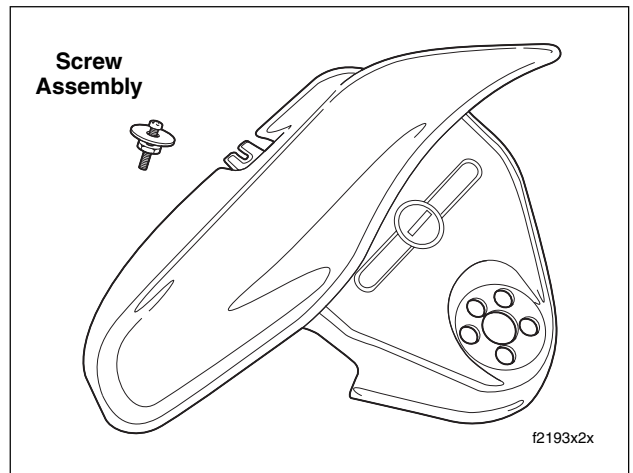

Figure 2-176. Handlebar Clamp Shroud/Wind Deflector and Screw Assembly
7. Raise handlebar clamp shroud/wind deflector and remove from motorcycle. See Figure 2-176.
- If disassembled, assemble screw assembly as shown in Figure 2-176.